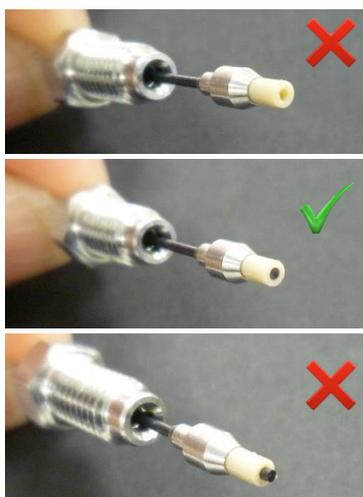

Figure 24. PEEK sleeve and PEEKSil tubing aligned correctly (middle), or incorrectly (top and bottom).
- Align the end of the sleeve to the end of the tubing (Figure 24).